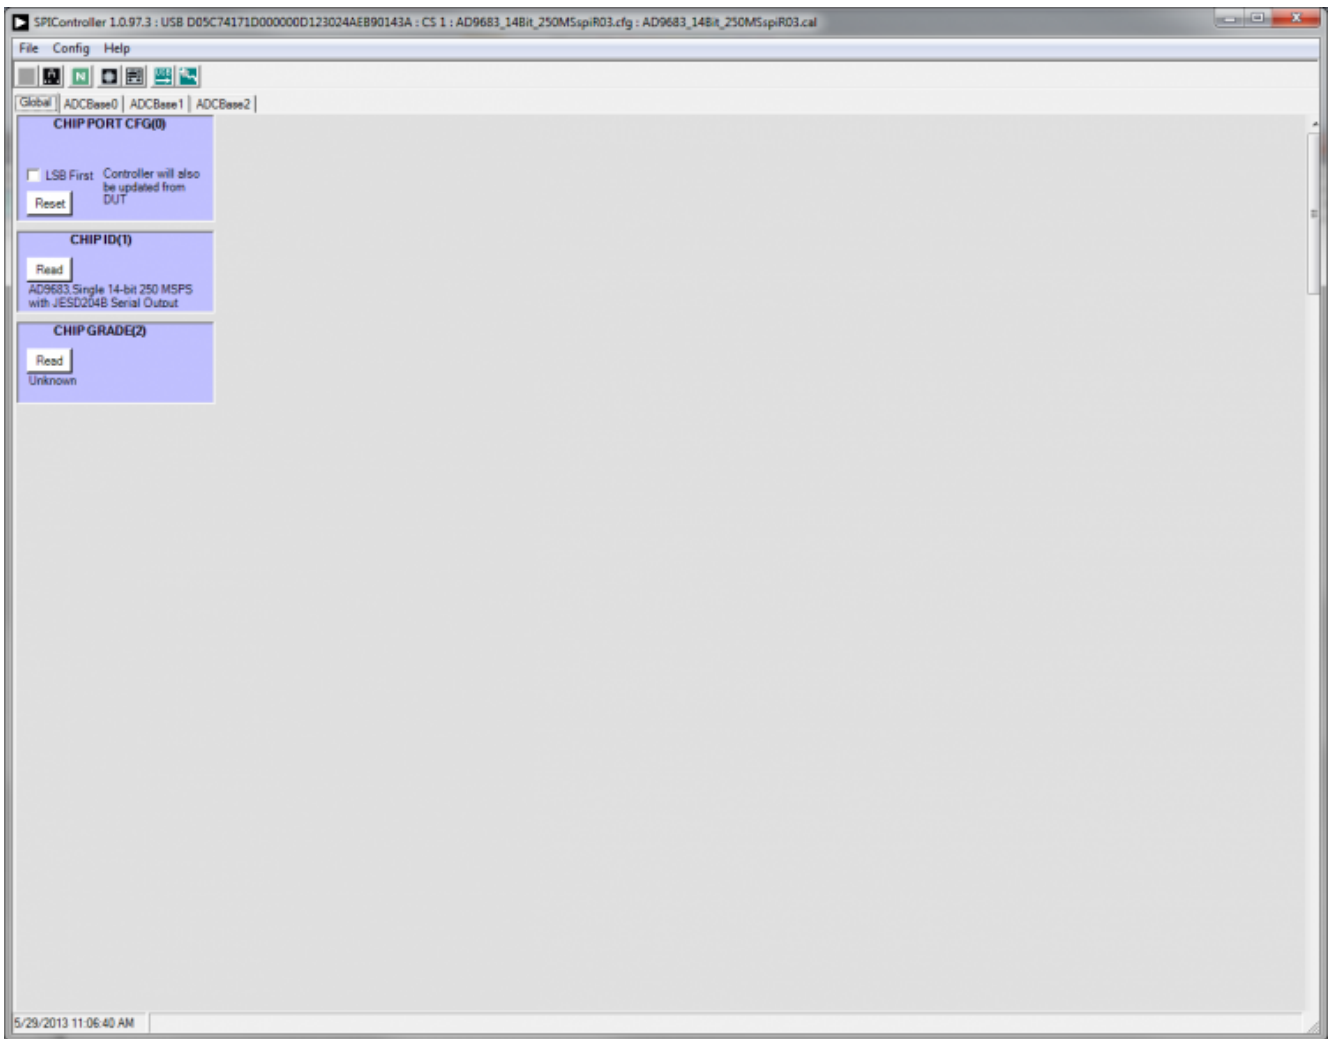

Figure 8. SPI Controller, CHIP ID(1) Box
1. Open the SPI controller software by going to the **Start** menu or by double-clicking the **SPIController** software desktop icon. If prompted for a configuration file, select the appropriate one. If not, check the title bar of the window to determine which configuration is loaded. If necessary, choose **Cfg Open** from the **File** menu and select the appropriate file based on your part type. Note that the **CHIP ID(1)** box should be filled to indicate whether the correct SPI controller configuration file is loaded (see Figure 8).